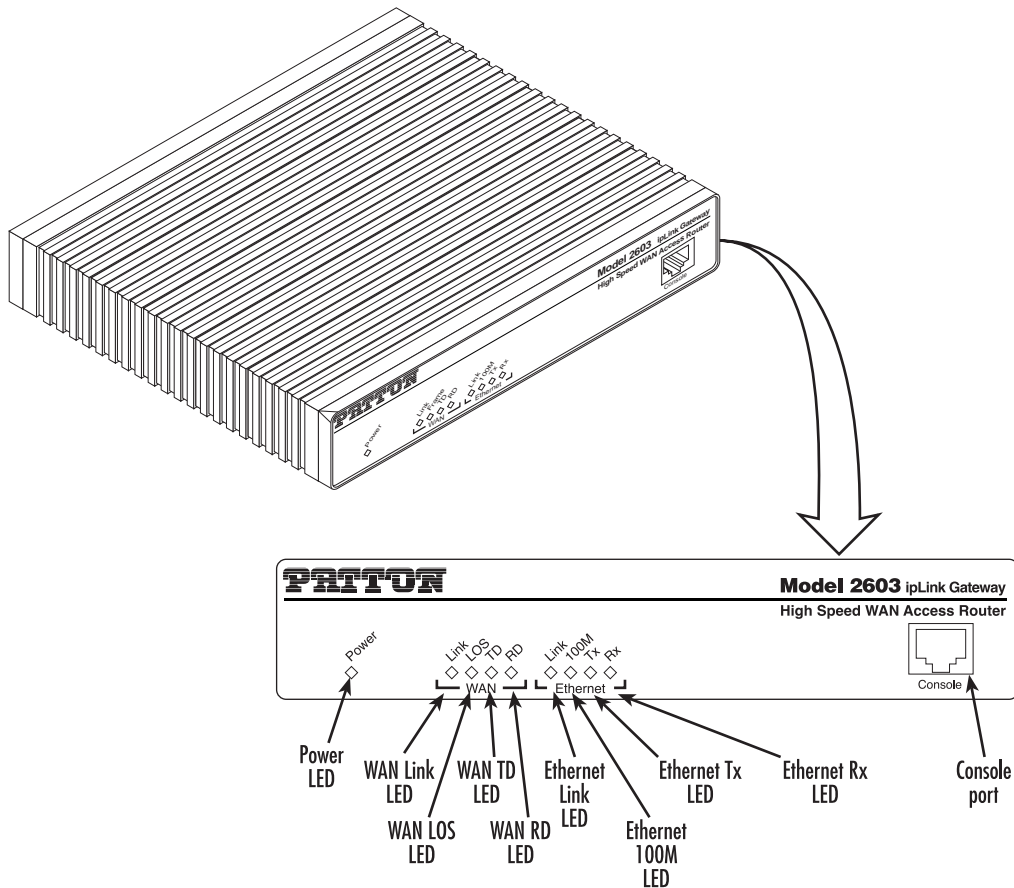

Figure 13. IPLink front panel LEDs and Console port locations (Model 2603 shown)
5. Verify that the green *Power* LED is lit (see figure 13).